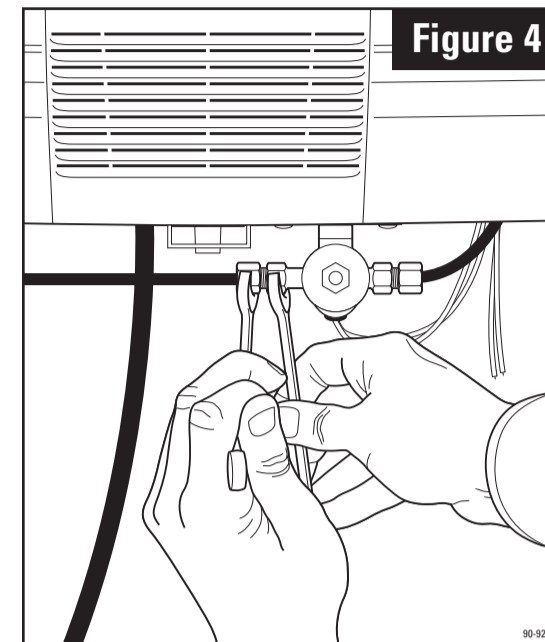

Figure 4
5. Insert Water Panel Evaporator assembly into base. Make sure bottom of scale control insert (5) is over drain opening. Snap top of evaporator assembly into base.
8. Run 1/4" copper tubing from saddle valve to solenoid valve. **DOUBLE-WRENCH TO PREVENT LEAKING.** See **Figure 4**.